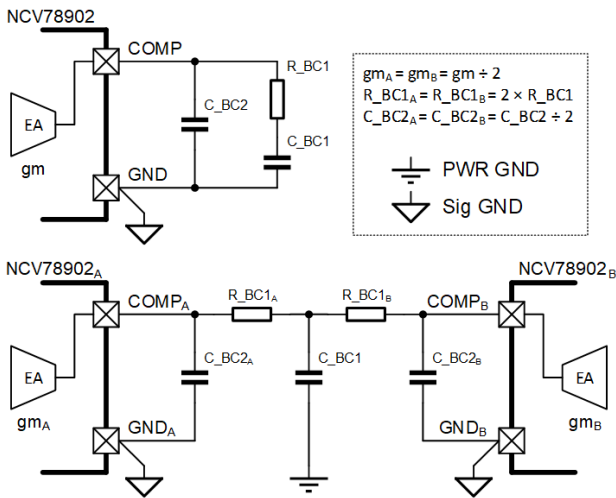

Figure 21. Compensation Network Connection for Single (Top) and Dual (Bottom) Device Operation
1. The compensation network is split between the two boosters’ COMP pins according to Figure 21, to equalize the power distribution of each booster. For the best noise rejection, the compensation network area has to be surrounded by the GND plane. Please refer to the PCB Layout recommendations section for more general advices.